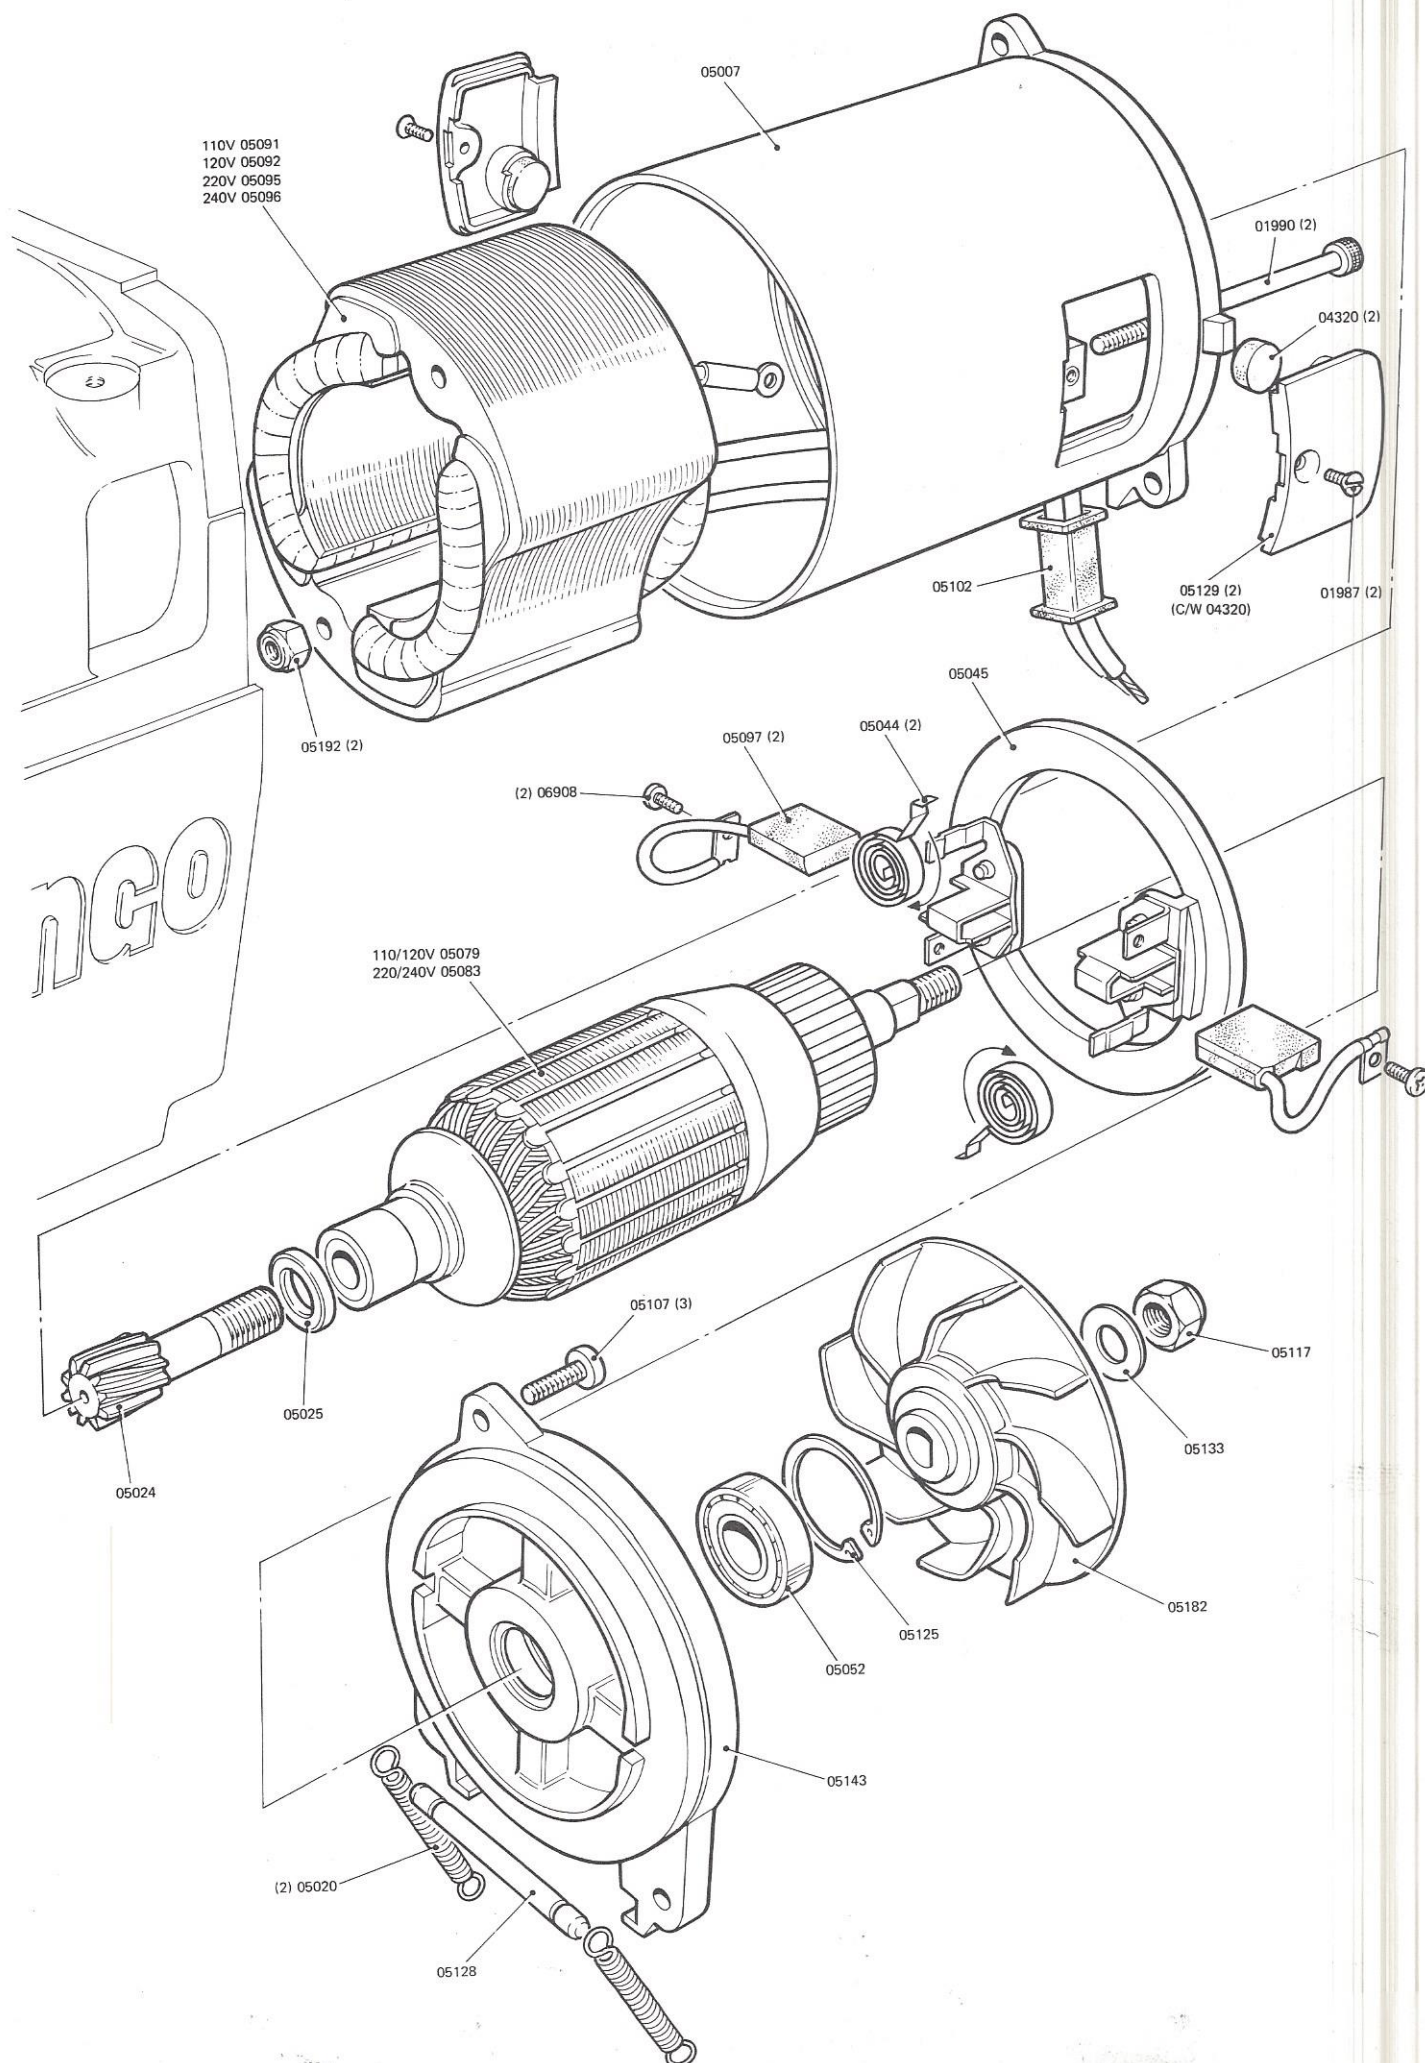

Figure 26 Motor
17.2 Motor (see Figure 26)
- †01987 Screw (2)
- †01990 Screw (2)
- †04320 Terminal Pad (2)
- 05020 Trigger Return Spring (2)
- 05044 Brush Spring (2)